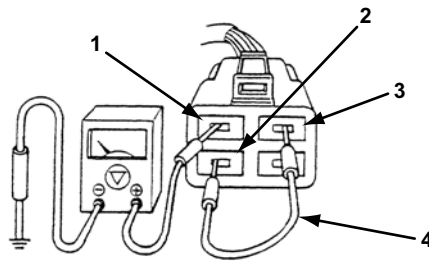

Figure 12-30 Analog voltmeter and terminal on 1988–1992 626/MX6
- Connect an analog voltmeter to FBS (G/R) (Figure 12-30).